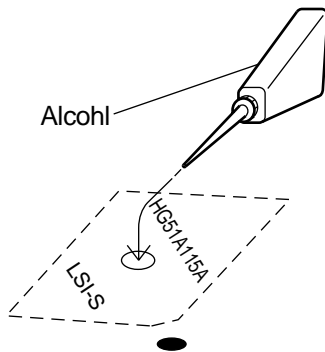

Fig.1
2. Apply plenty of the alcohol to the adhesive tape from the reverse side of the main PCB. (Fig. 1)